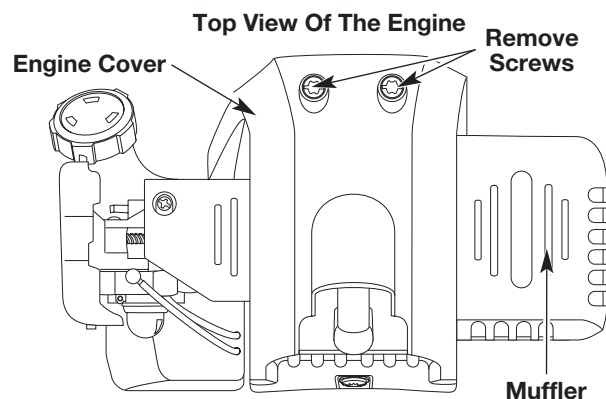

Fig. 51
2. Remove the two (2) screws on top of the engine cover with a Flat-head or T-25 Torx screwdriver (Fig. 51).